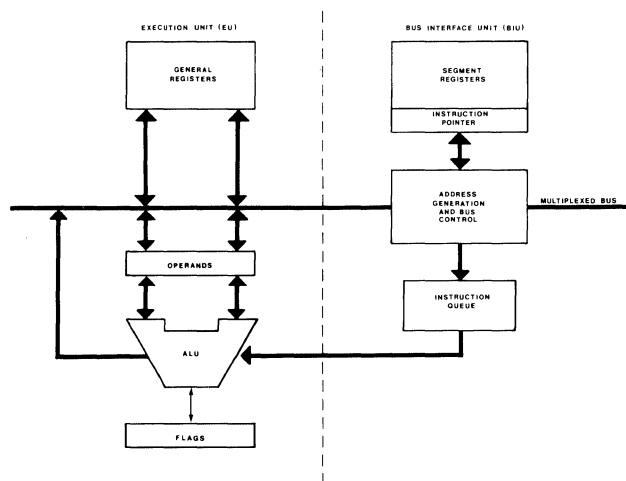

Figure 2. Execution and Bus Interface Units (EU and BIU)
Architecture — The 8086 CPU is internally divided into two operational sections (figure 2): the Execution Unit (EU) and the Bus Interface Unit (BIU). The BIU maintains an instruction queue, which can store up to six instruction bytes, as well as performing all bus operations for the EU. Using the instruction queue, the BIU can keep the EU supplied with prefetched instructions without monopolizing the system bus. Both the BIU and the EU can operate independently of each other and are able to extensively overlap instruction fetch with execution. This technique significantly reduces the time required to execute instructions.